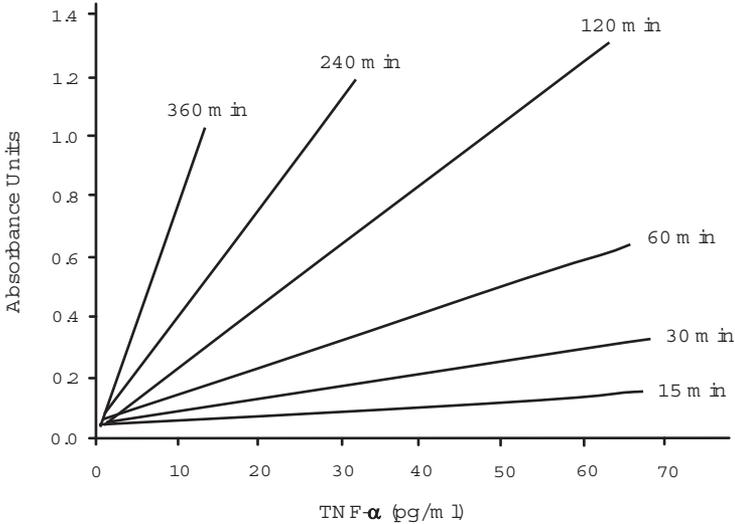

Figure 5. TNF- α Standard curve at various development times
5. The plates can be checked periodically over the next few hours. Once the S1 wells seem visibly yellow (0.3 A.U., ~20-30 minutes) it will be possible to determine the concentration of the relatively concentrated samples. Longer development times will be necessary to obtain an accurate plot for the lower range of the standard curve and statistically significant values for sample concentrations near the detection limit of the assay (~3.9 pg/ml). Standard curves at various development times are shown in Figure 5 (see page 18).